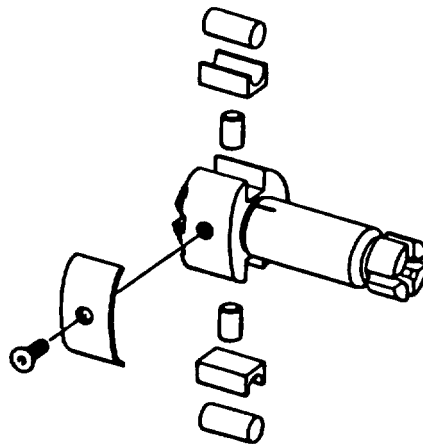

FIGURE 3-73. Installing Rollers and Shoes (Typical)
- h. If removed, install new plungers (29) in their bores and check for freedom of movement. Install two shoes (28) and rollers (27) on rotor, refer to FIGURE 3-73.